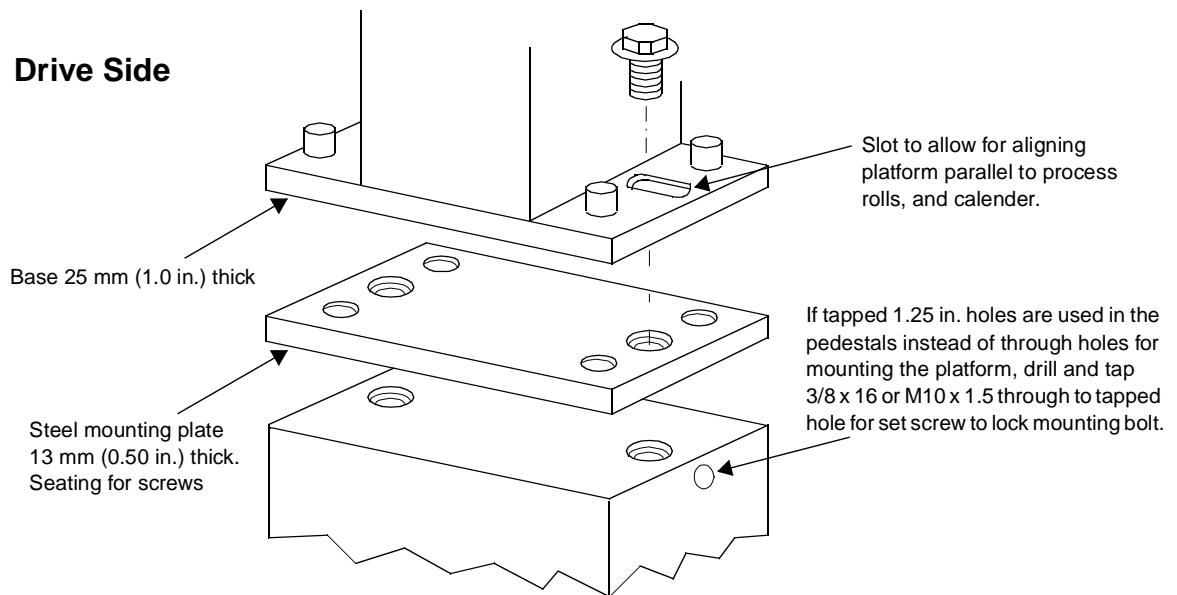
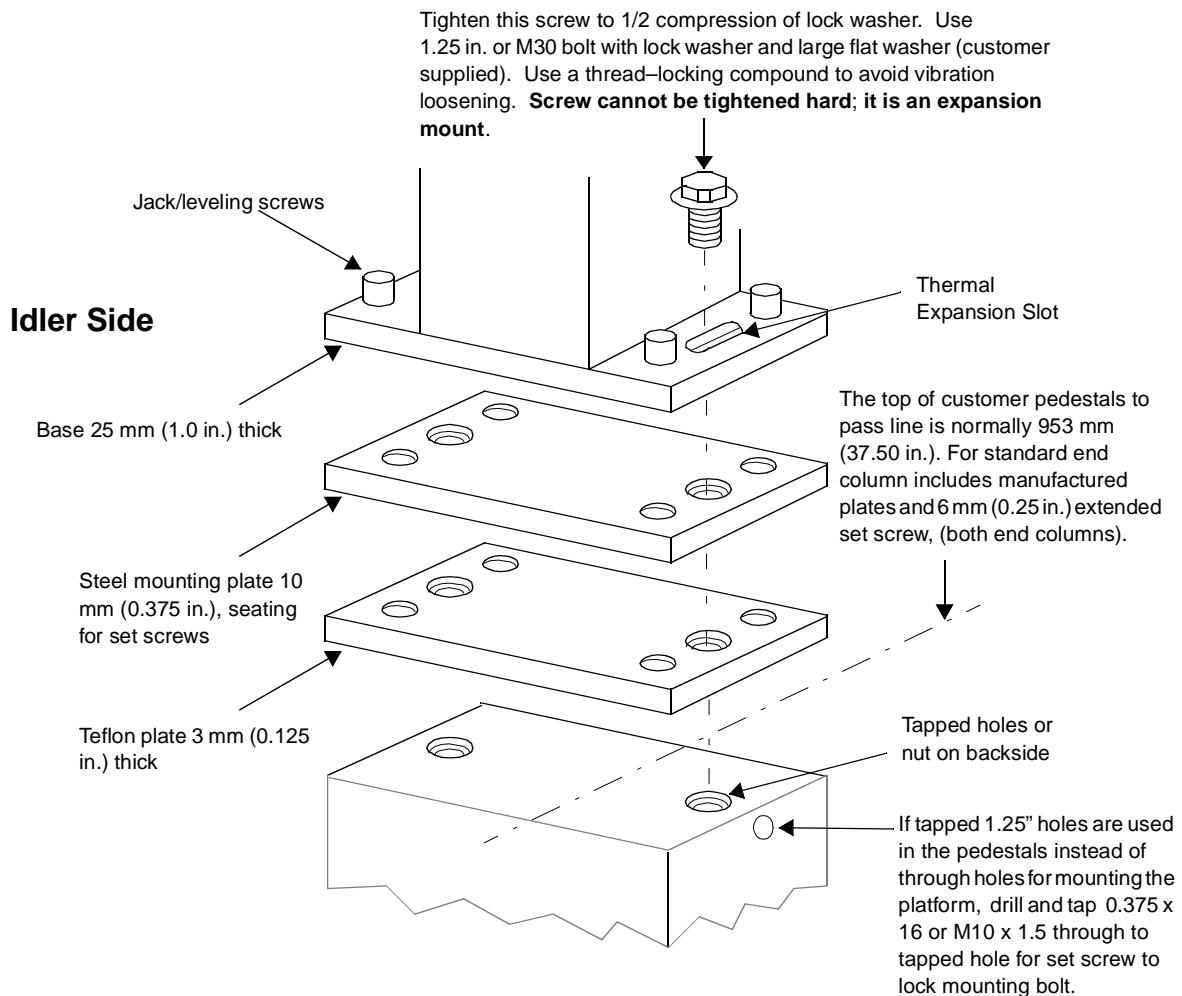
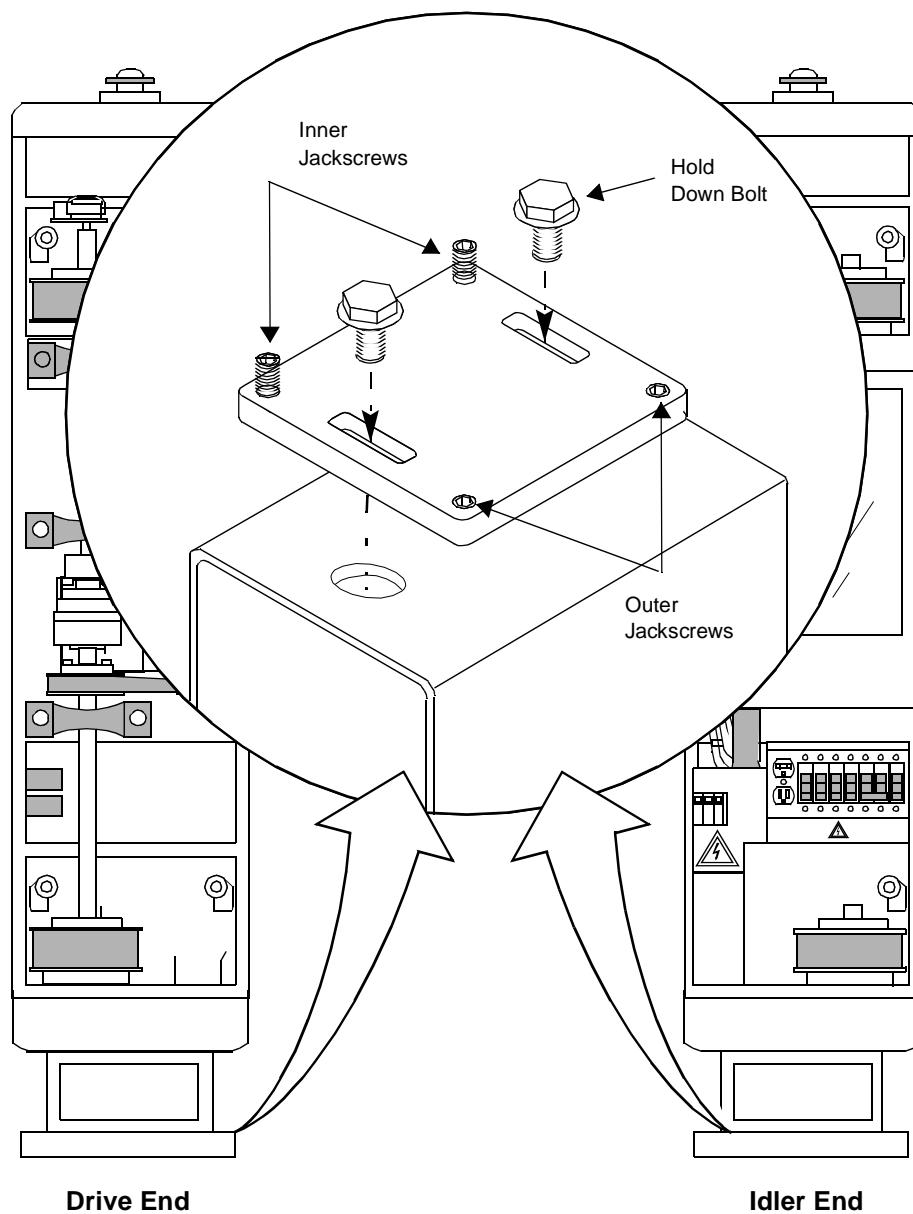

Figure 3-5 Attaching Drive Side of Scanning Platform to Pedestals
Figure 3-6 Platform to Pedestal Installation – Idler Side
Figure 3-8 Jackscrew Orientation
4. Install shims. Refer to Figure 3-5 and Figure 3-6 on page 38.
See Figure 3-8. The four front (inner most) jackscrews should protrude 0.125 - 0.250 in. (3 - 6 mm) below the mounting surface, and the remaining jackscrews should be flush with the mounting surface.
20. Adjust the jackscrews in the base of the applicable column to position the wire at the center of the source detector air gap. See Figure 3-6 on page 38 and Figure 3-8 on page 40.